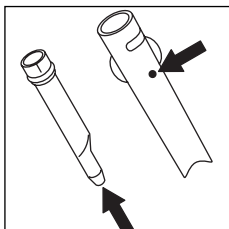

fig. 27
5. Make sure the two holes indicated by the arrows in fig. 27 are not blocked. If necessary, clean with a pin.